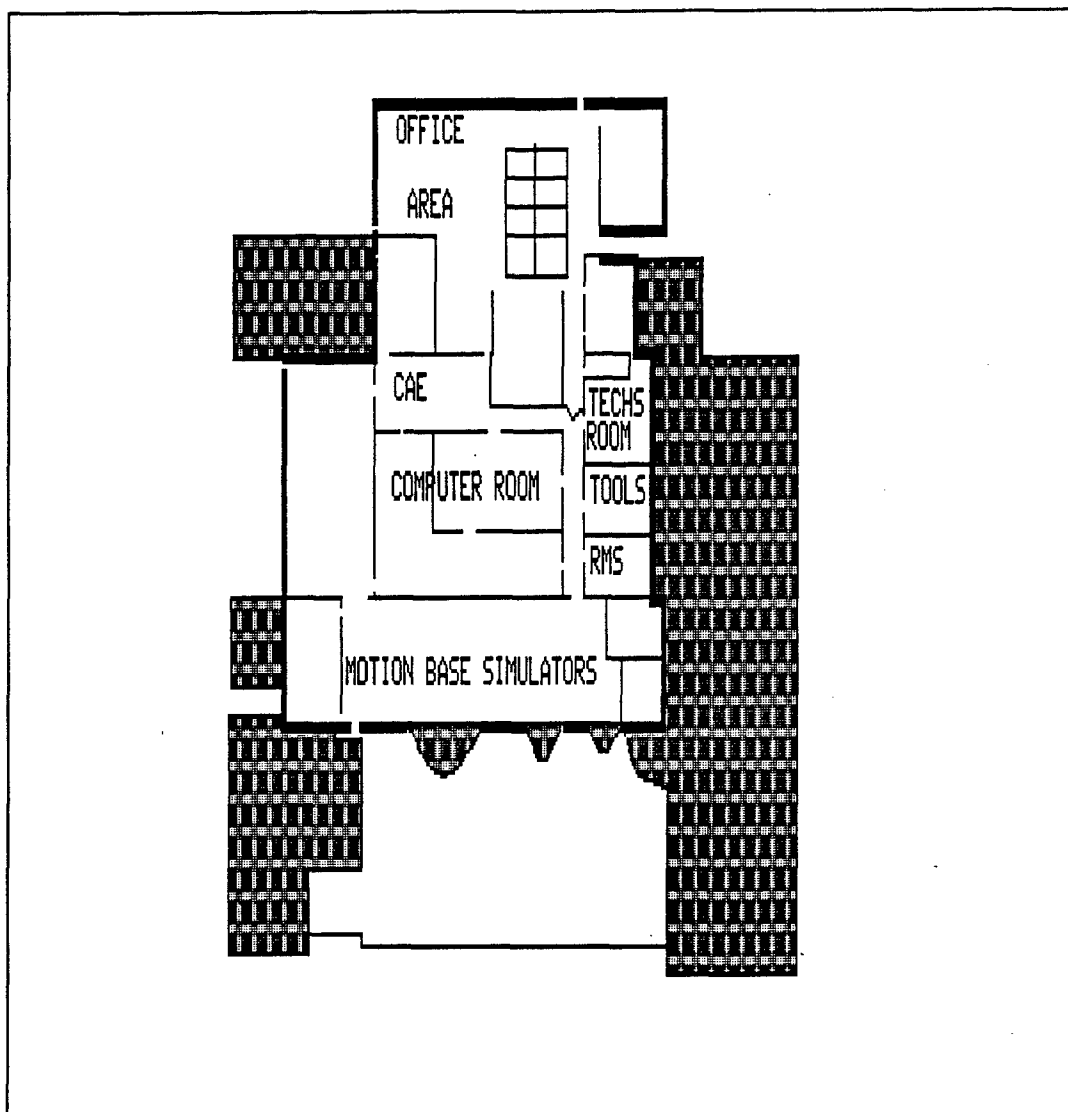
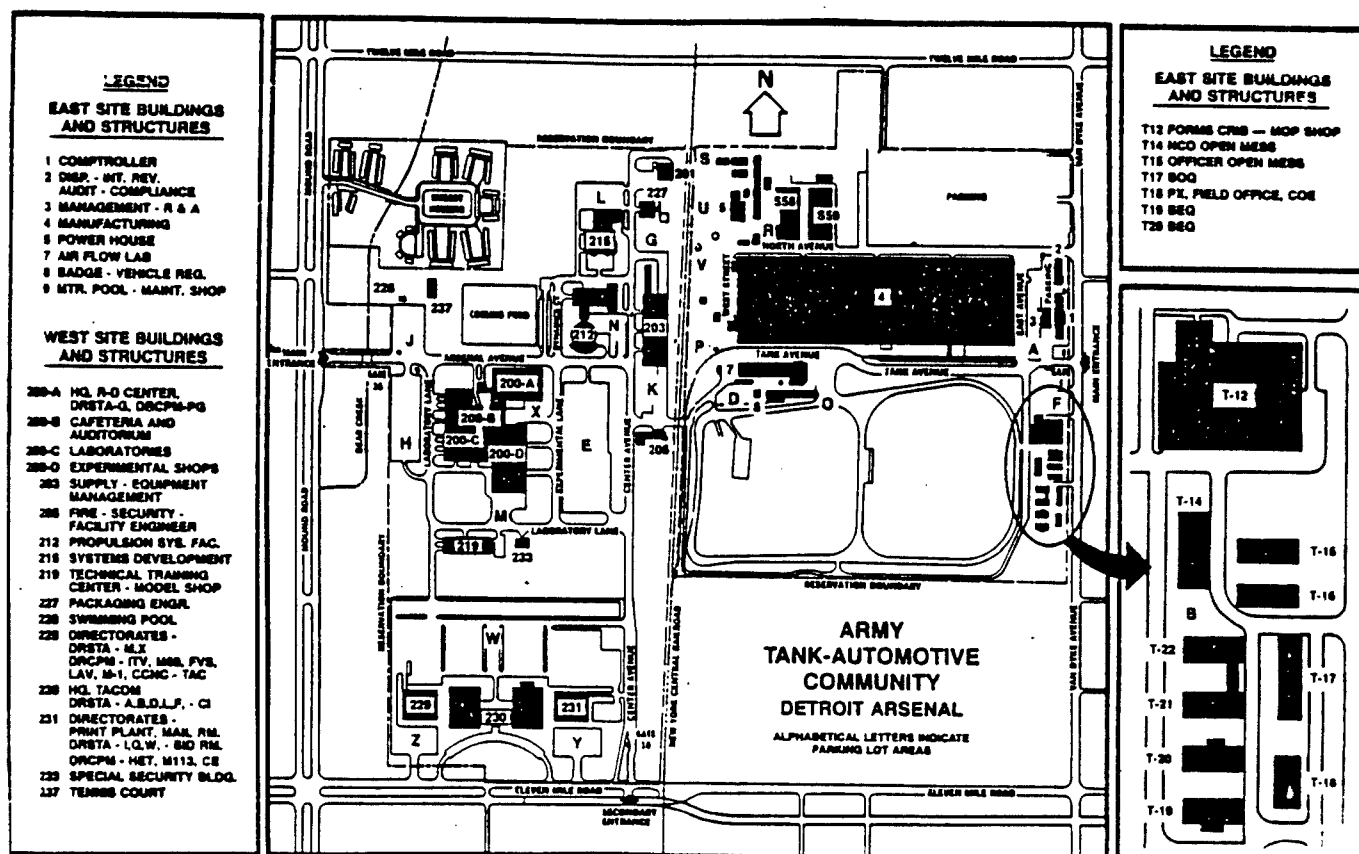

Figure 5-10. Layout of Building 215.
Figure 5-11. TACOM Map.
5.3.1. RMS Location. The RMS is located in the RMS Bay Room in Bldg. 215. A layout of Bldg. 215 is presented in Figure 5-10. Bldg. 215 was constructed in 1972, with laboratory simulation as its major function. Upon completion of the building, the RMS was moved from Bldg. 200 to its present location in the RMS Bay Room. Most of TACOM's analytical and physical simulation is performed here, including track and suspension, subsystem, and full-scale simulation of vehicles. A map of TACOM in Figure 5-11 shows the location of Bldg. 215.